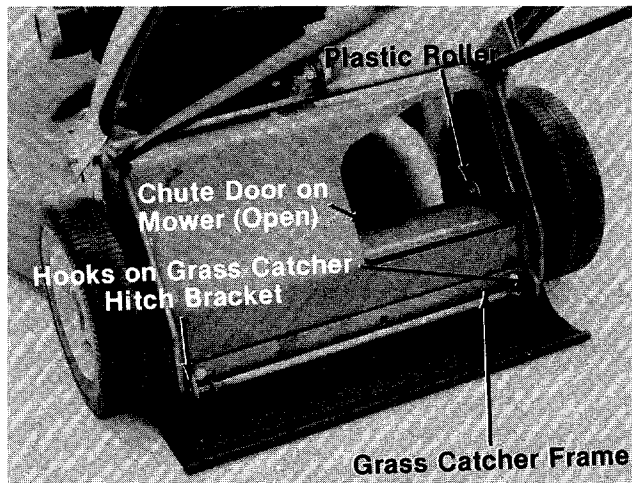

FIGURE 10.
- ← 1. Attach the grass catcher frame to grass catcher hitch bracket on rear of the mower by hooking grass catcher into hooks on grass catcher hitch bracket. See figure 10.
2. Lift the rear of grass catcher up. The roller on the grass catcher will push the chute door on the mower open. See figure 10.
Figure 10 is shown with the chute door open for photo clarity only.